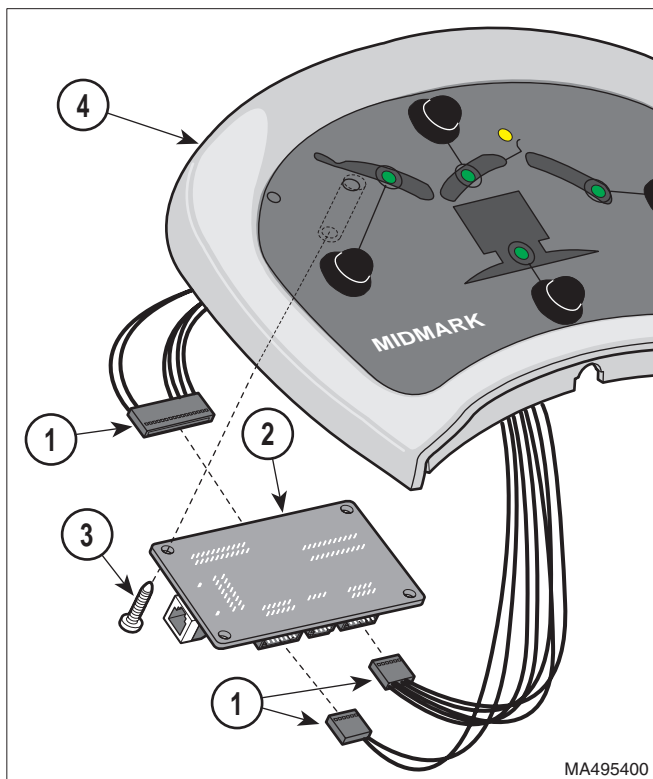

Figure 4-39. Foot Control PC Board Removal / Installation
- (1) Remove foot control top. (Refer to para 4.28 *or* 4.29).
- (2) Disconnect three wire harnesses (1, Figure 4-39) from PC board (2).
- (3) Remove four screws (3) and PC board (2) from foot control top (4).